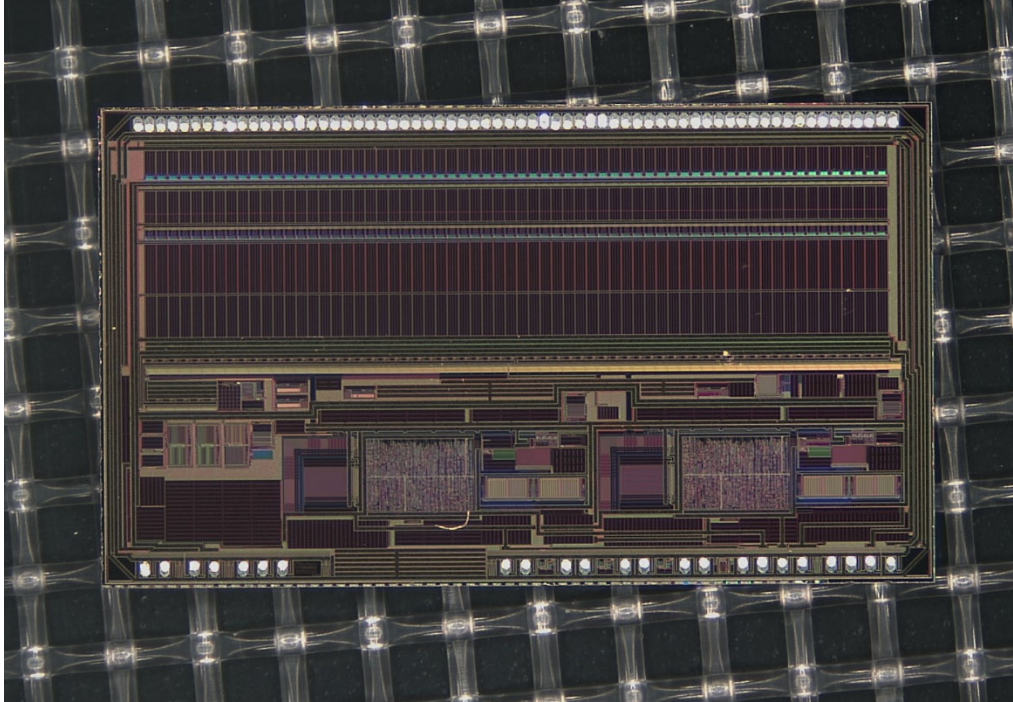

Figure 4: Intan RHD2164 with ball bonds on the pads
3. Using the fine pitch bump capillary, place ball bonds on each bond pad (Figure 4).